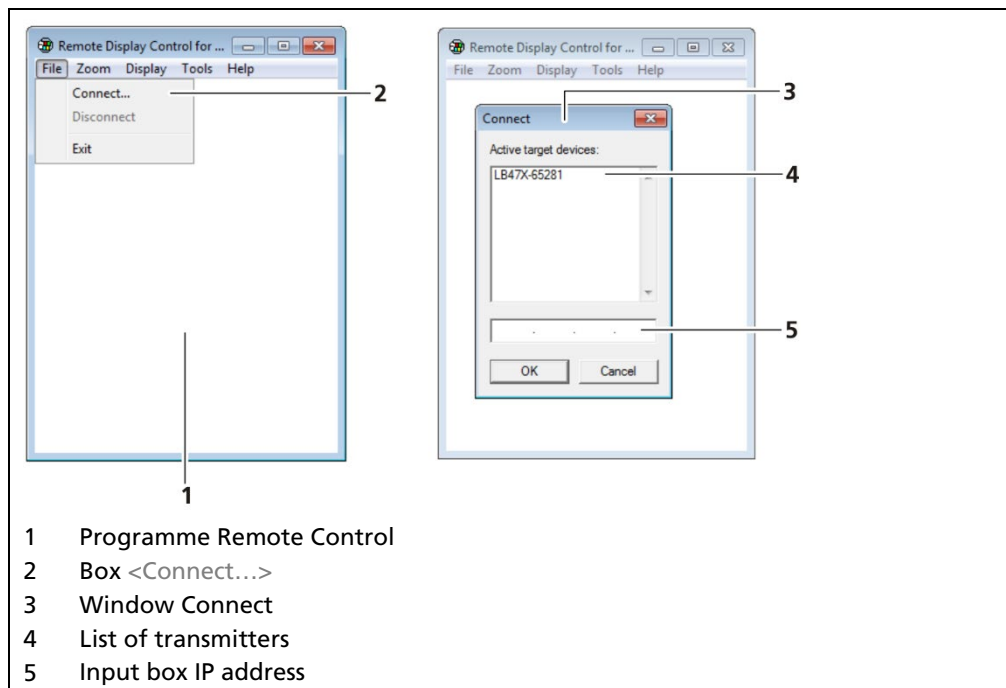

Fig. 49 Establishing connection to the EVU using the RC software
- ▶ The program starts (Fig. 49, item 1).
2. Click on the < **File** > tab and then on < **Connect...** > (Fig. 49, item 2), to establish a connection to the EVU.
- ▶ A new window "Connect" is opened (Fig. 49, item 3) and the connected transmitters are listed.
3. Click on the identifier of the transmitter (Fig. 49, item 4) or enter the IP address of the EVU in the input box (Fig. 49, item 5) (see Fig. 49, item 2).